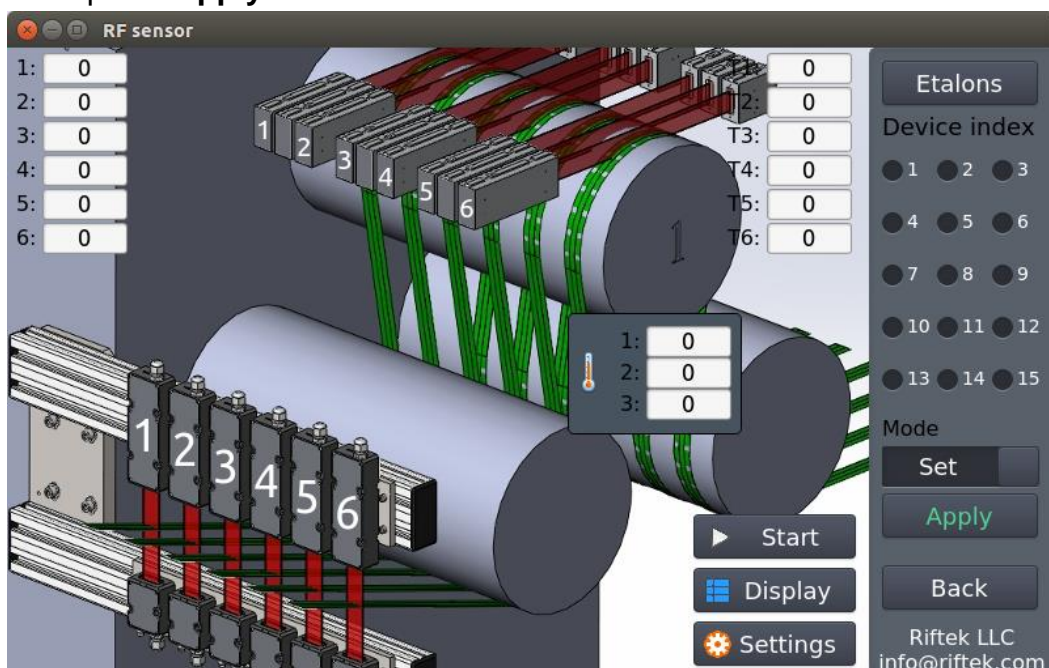

Figure 11
- open the calibration menu: **Settings** > **Set etalon/Sw. State** (Fig. 11)